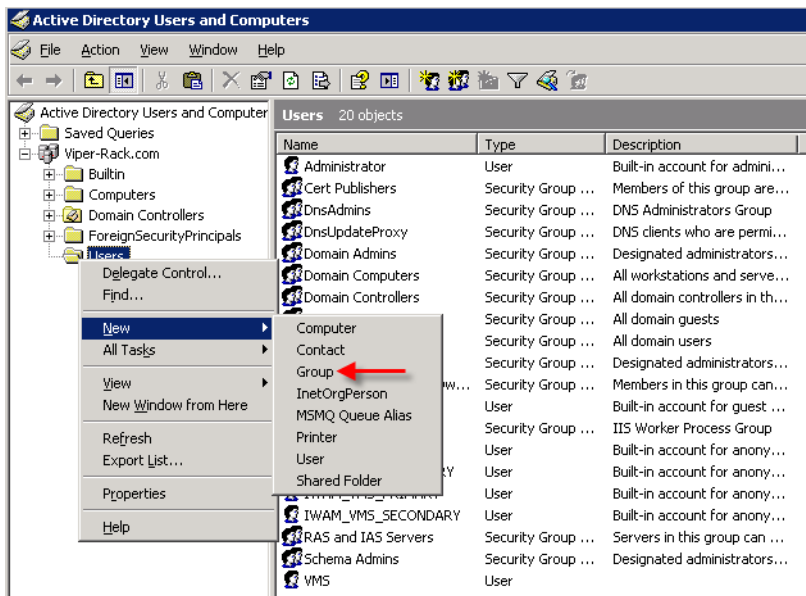

Figure 2-37 Create Group
- Expand the Domain name tree, right-click on **Users** and select **New Group** from the drop-down menu, as shown below in figure 2-37.